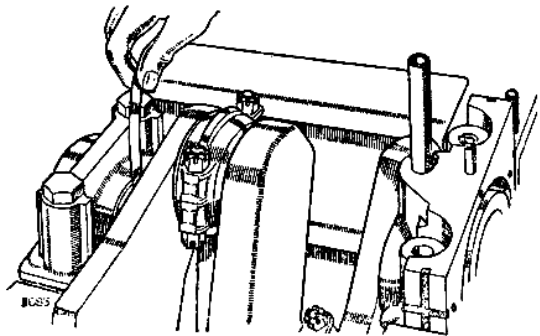

Fig. A-9—Checking crankshaft end-float
5. Check the crankshaft end-float with a feeler gauge (Fig. A-9); adjust at centre bearing by selective assembly of thrust washers to give .002 to .006 in. (0,05 to 0,15 mm) end-float.